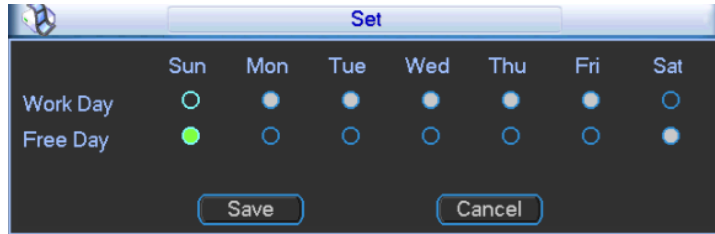

Figure 3-56
2. Click “Set” in the right; divide work day and free day, as shown in Figure 3-56. The user divides them according to needs. For example, set Monday to Friday as work days, Saturday and Sunday as free days.